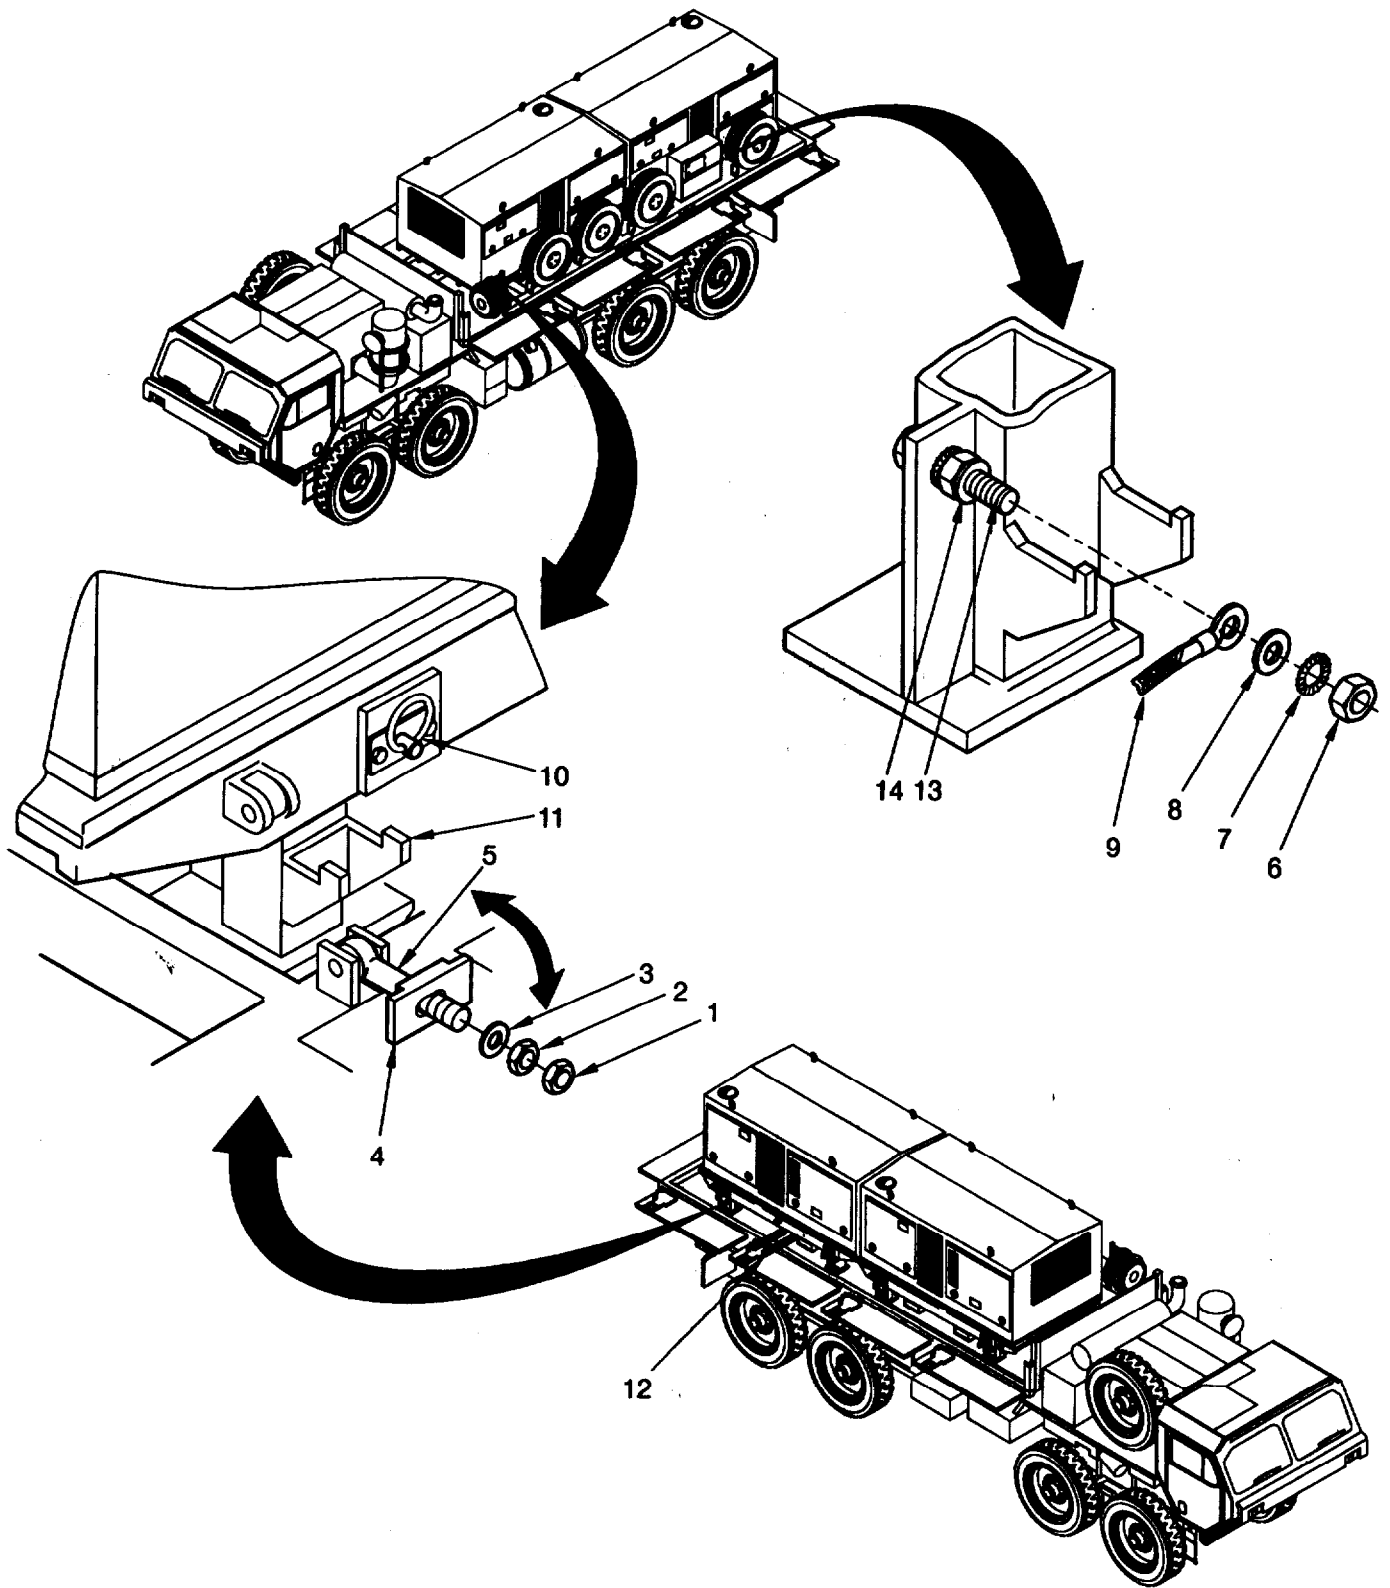
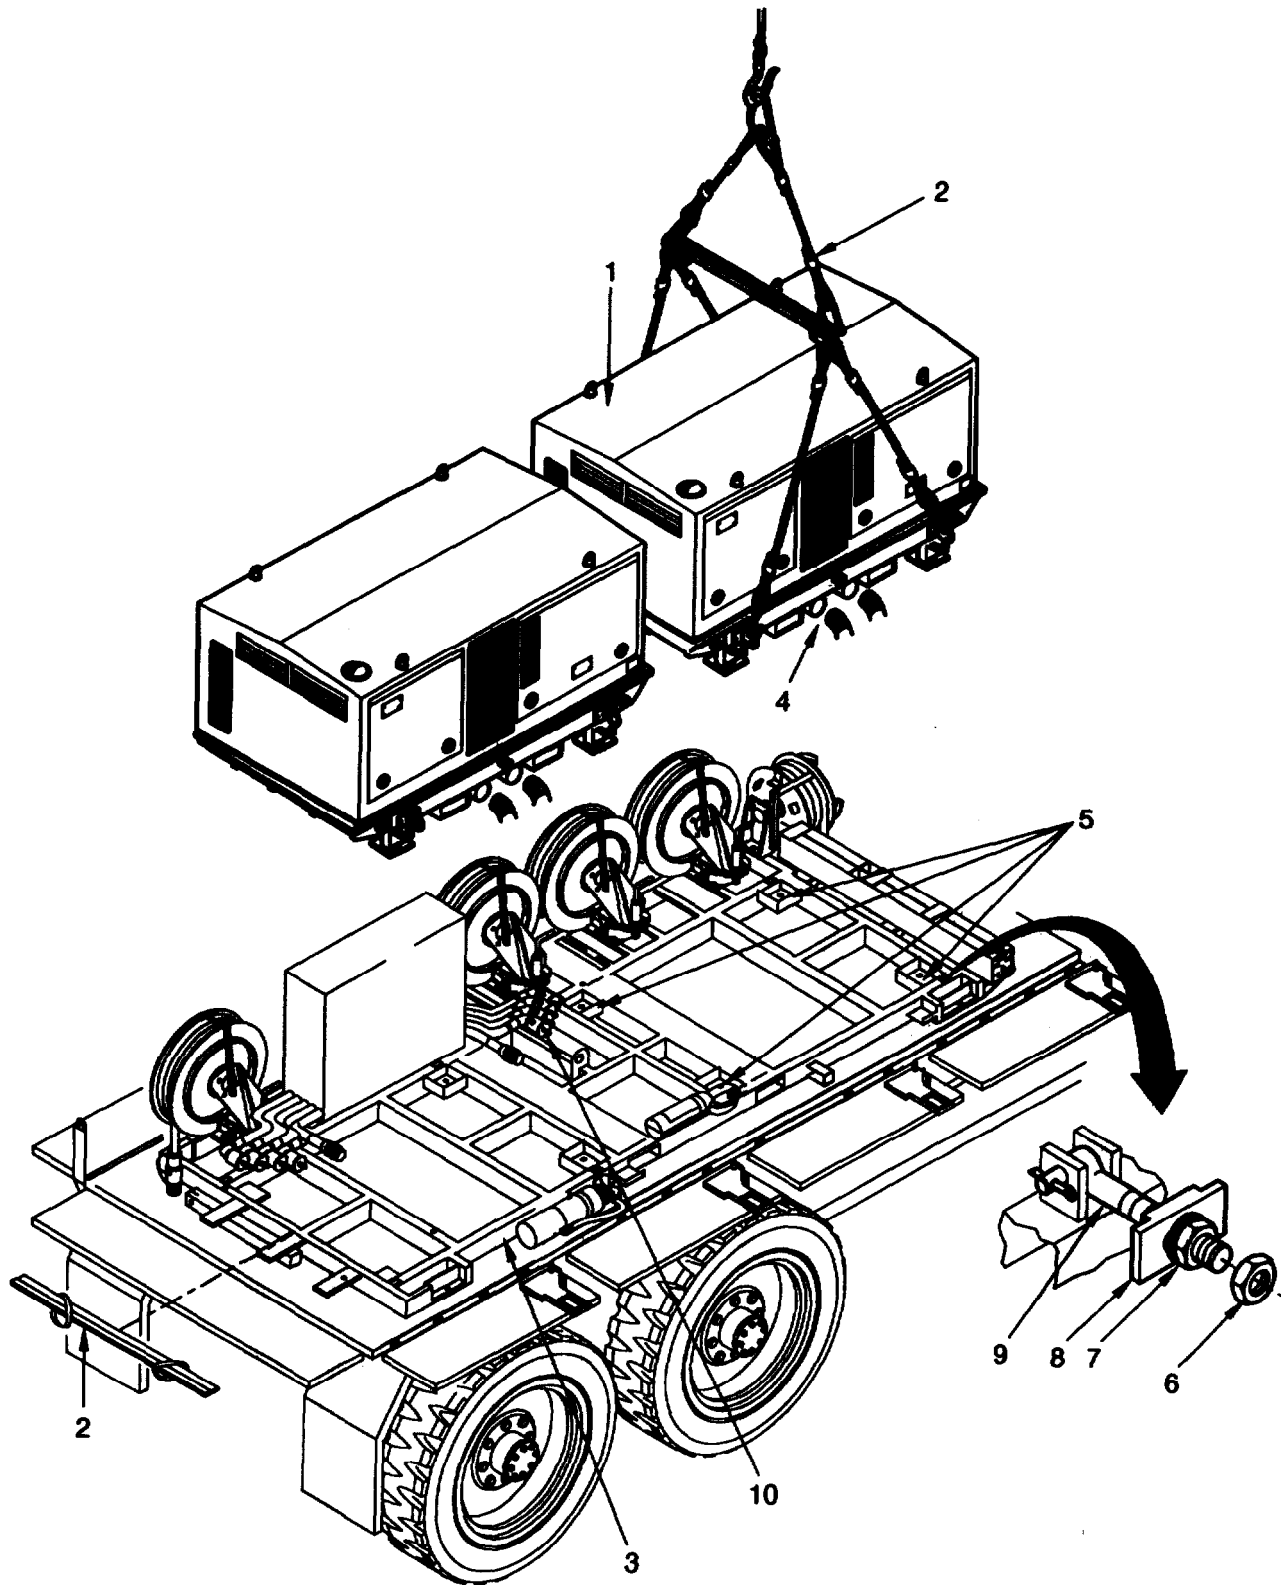
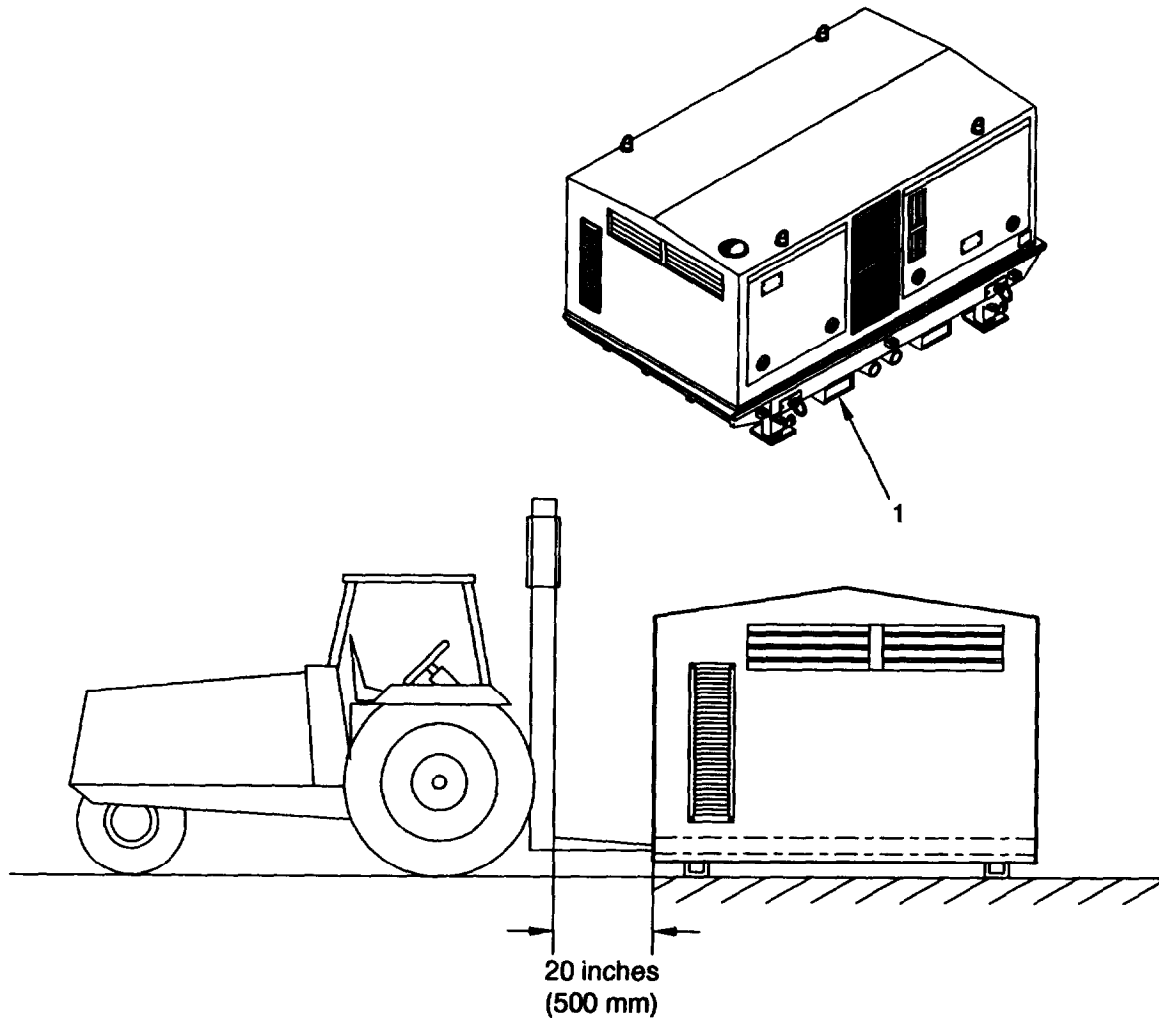

Figure 4-21 Attachments Between Generator Set 150 kW and Pallet Frame.
Figure 4-22 Removing a Generator Set 150 kW from Pallet Frame using a Crane.
Figure 4-24 Inserting Forks into the Forklift Sockets of Generator Set 150 kW.
- (1) Remove nut (1, figure 4-21).
- (2) Unscrew nut (2) to end of threads.
- (3) Swing plate (4) with bolts (5) in the direction of the arrow.
- (4) Screw nut (2) down and screw nut (1) back on temporarily.
- g. Remove sling assembly (2, figure 4-22) from pallet frame (3). Suspend sling assembly on crane, and position crane approximately over the center of the Generator Set 150 kW (1), as shown in figure 4-22.
- Ensure lifting rings (10, figure 4-21) are properly installed and are in the proper position (up) for lifting.
Do not damage PDU cable (10, figure 4-22) during lifting of the Generator Set 150 kW.
- h. Thread lifting rings (10, figure 4-21) all the way into the sling points, engage the four cable hooks of the sling assembly (2, figure 4-22) in the lifting rings. Lift the Generator Set 150 kW with the crane, and lower it onto a solid surface.
Use only forklifts with a fork length of at least 80 inches (2000 mm) and a capacity of approximately 12,000 lb. (6 metric tons). Place a mark at 20 inches (5000 mm) as shown in figure 4-24.
Use the forklift only on the side of the Generator Set 150 kW as shown in figure 4-24.
Do not damage PDU cables (10, figure 4-22) during set down of the Generator Sets 150 kW.
- a. Arrange PDU cable (10) so it will not be damaged when the Generator Set 150 kW is set down.
- c. Remove sling assembly (2) from pallet frame (3). Suspend sling assembly from crane, and position crane approximately over the center of the Generator Set 150 kW as shown in figure 4-22.
- **Ensure lifting rings (10, figure 4-21) are properly installed and are in the proper position (up) for lifting.**
- d. Thread lifting rings (10) all the way into the sling points, engage the four cable hooks of the sling assembly (2, figure 4-22) in the lifting rings. Lift the Generator Set 150 kW with the crane, and position it above the pallet frame so the Generator Set 150 kW is centered over recesses (5).
- e. Lower the Generator Set 150 kW into the recesses (5) in the pallet frame.
- (1) Remove nut (6).
- (2) Unscrew nut (7) to end of threads.
- (3) Coat threads of bolt (9) with copper paste.
- (4) Swing plate (8) with bolt (9) so the bolt rests in fork (11, figure 4-21).
- (5) Tighten nut (7, figure 4-22) to a torque value of 88.42 ft-lb (120 Nm).
- (6) Tighten nut (6) to a torque value of 132.66 ft-lb (180 Nm).
- (1) Place grounding cable (9, figure 4-21), washer (8) and serrated washer (7), onto grounding bolt (13).
- (2) Tighten nut (6) to a torque value of 18.42 R-lb (26 Nm).
- (3) Apply terminal grease to threaded connection.
- i. Remove sling assembly (2, Figure 4-22), and attach to pallet frame.
- (1) Remove protective covers (15, 16, 17 and 18) from end of cables L1, L2, L3, and N.
- (2) Coat threads of plug from power cable L1 (12) and socket L1 (OA) with copper paste.
- (3) Insert plug of power cable L1 into socket L1 (OA), and tighten down.
- (4) Insert plugs of power cables L2, L3 and N (9, 10, 11) and tighten down.